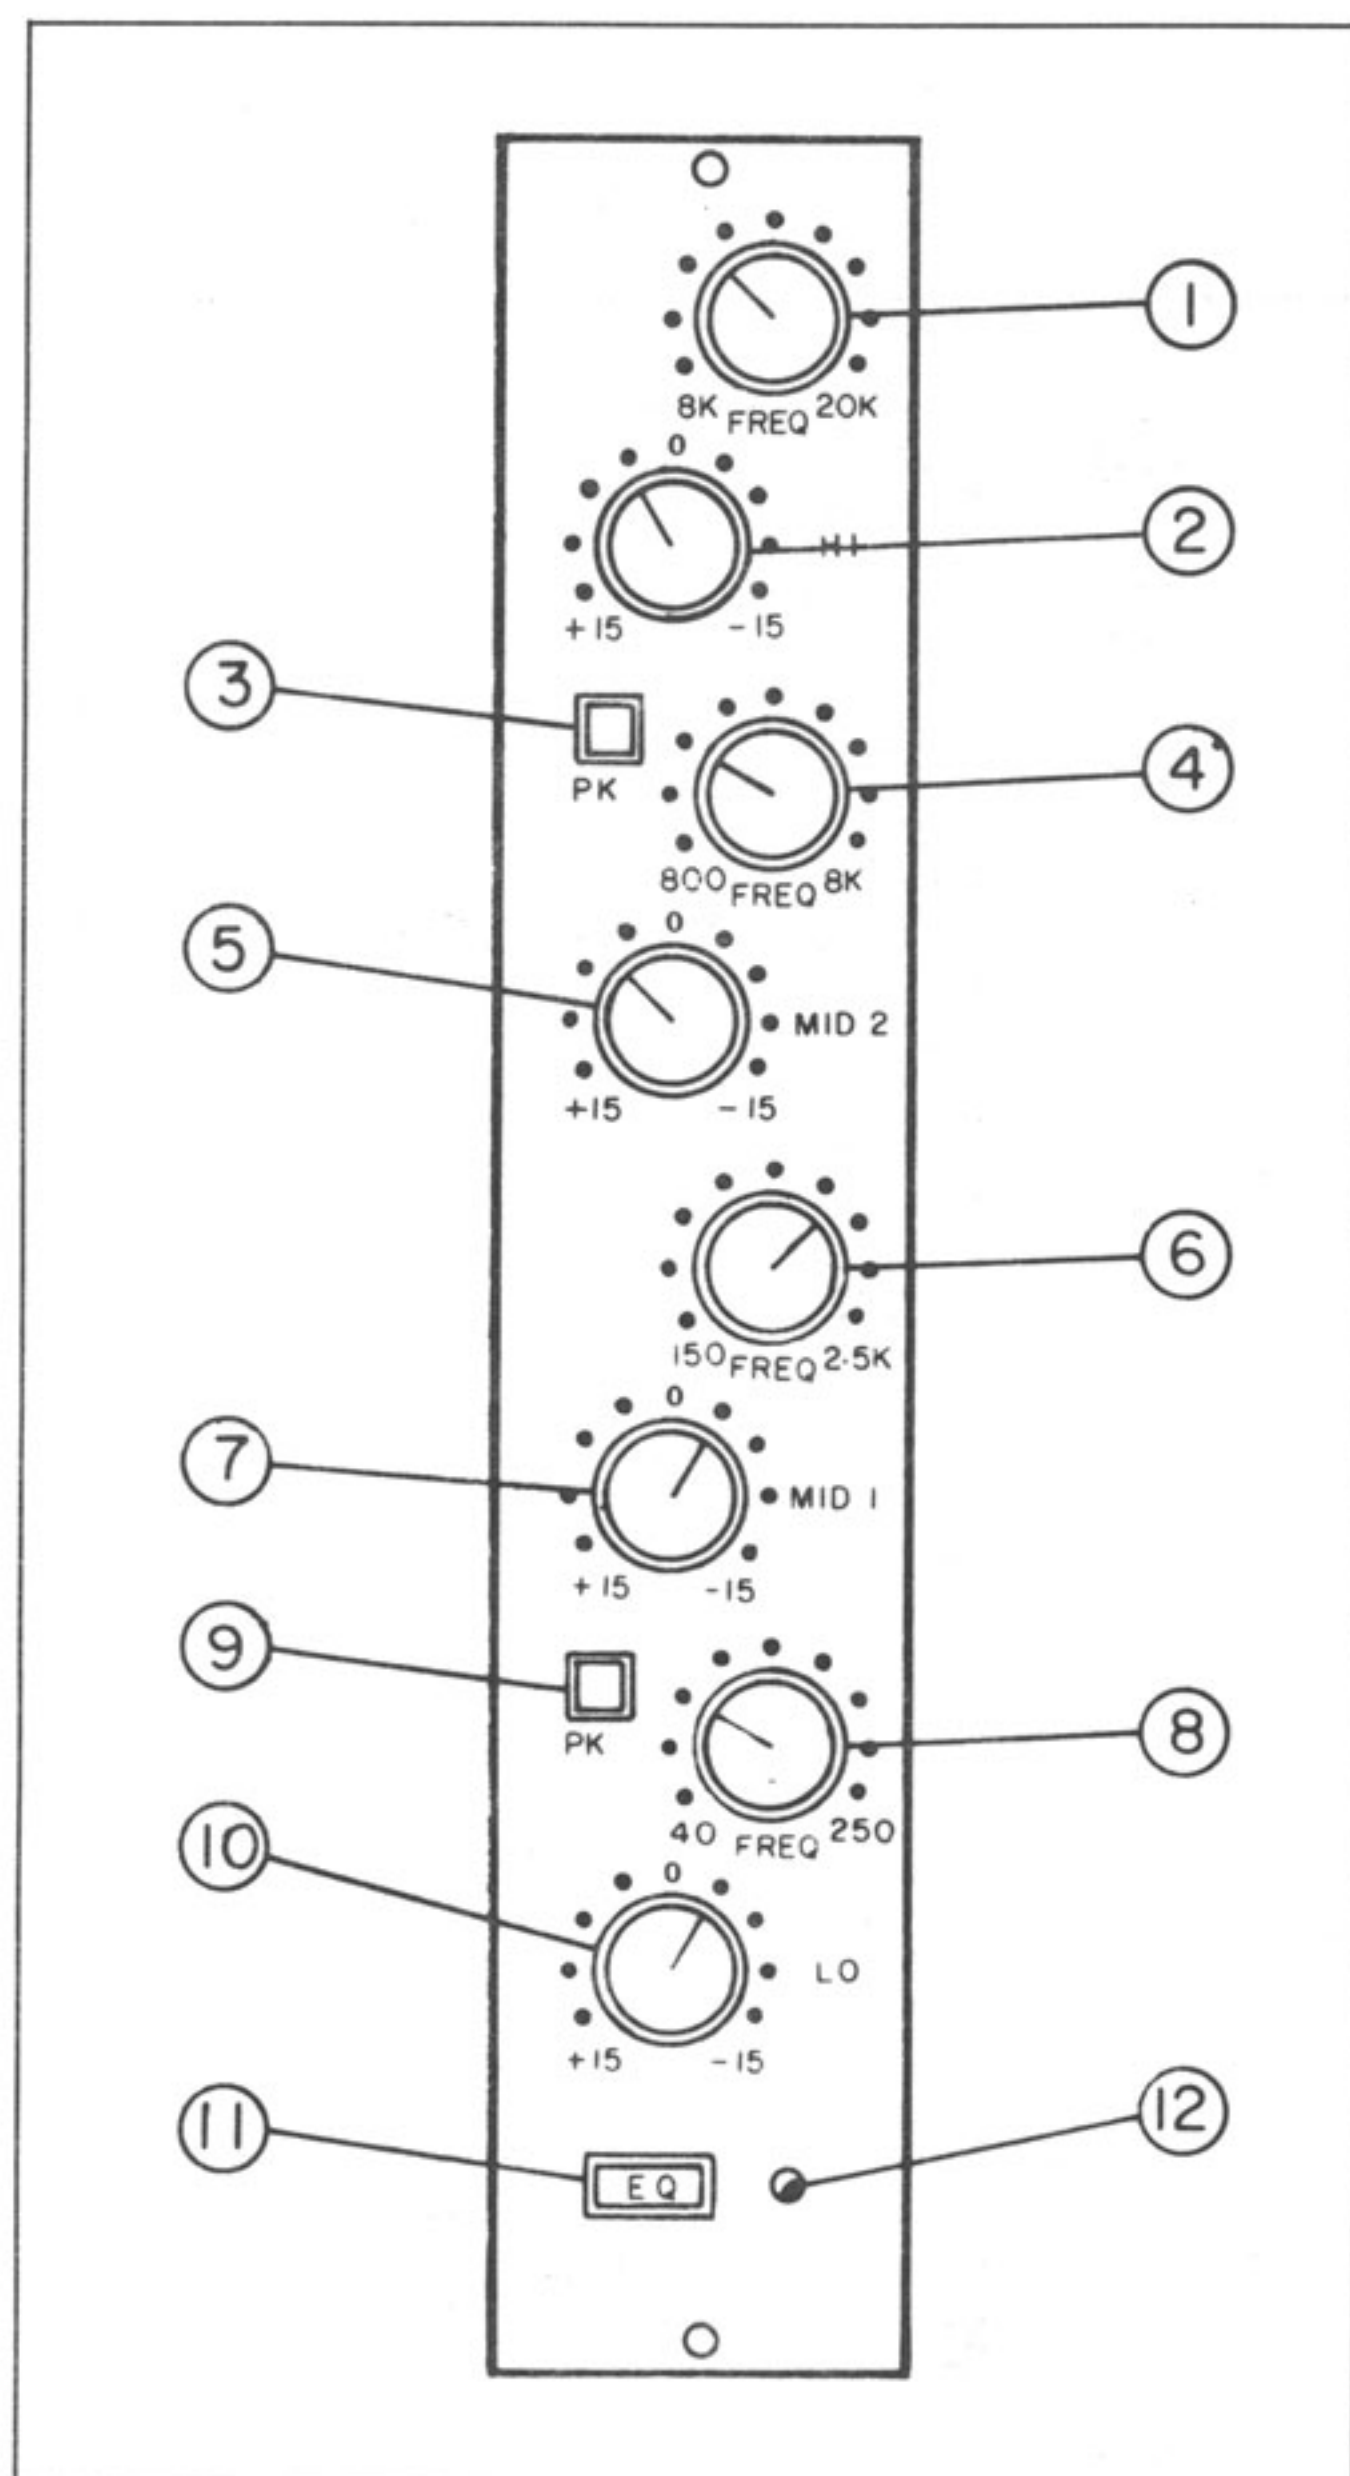

Figure 3-3. Equalizer MXPBK-EQ31
The **MXBK-EQ31** Equalizer is a fixed-Q, four-band device, with band frequencies of 8 kHz to 20 kHz (HI) 800 Hz to 8 kHz (MID 2), 150 Hz to 2.5 kHz (MID 1) and 40 Hz to 250 Hz (LO). Figure 3-3 illustrates the Equalizer controls. There are four sets of similar controls, with additional peaking switches for the high and low bands.